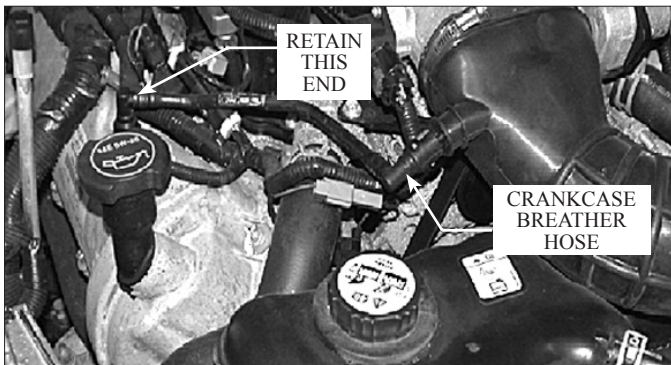

Fig. 1-a
- A. Loosen the hose clamp at the throttle body. Disconnect the plastic 3/8" tube assembly attached to the passenger's side valve cover. Remove the plastic 3/8" x 90° connector from the plastic tube that was connected at the passenger's side valve cover. Set this connector aside to be re-used in a later step. Discard the remainder of the hose assembly, as it will not be re-used. (See Fig. 1-a.)